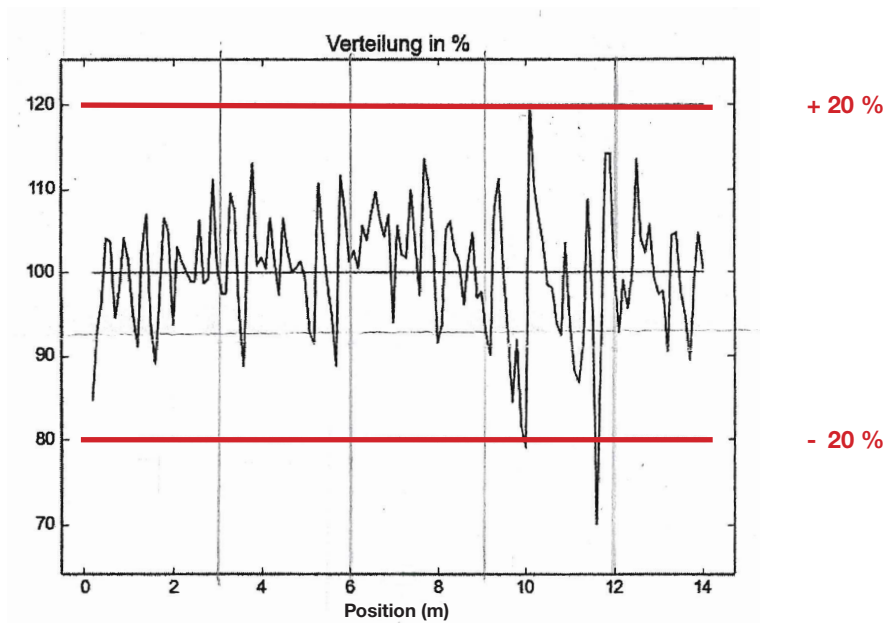

Figure 1: Lateral distribution of **used** IDKT 120-025 nozzles at the sprayer check
Figure 1 shows the result of a measurement of the lateral distribution in the sprayer check with a coefficient of variation (VK) of 7.55% - max. 10% is permitted. However, the deviation of individual quantities of up to 29.94% is too high. According to new guidelines since 2015, +/- 20% have been permitted here. These few outliers at a proper VK indicate problems at certain boom points. The cause can be dirty nozzles, clogged filters, an incorrect orientation of the nozzles (jets meet) or the spraying of equipment parts.
Figure 2: Lateral distribution on the Lechler test bench with the same IDKT 120-025 as in Figure 1 **after cleaning** in an ultrasonic bath. Please note the deviating representation with the tolerance range of +/- 15% according to the Lechler factory standard.